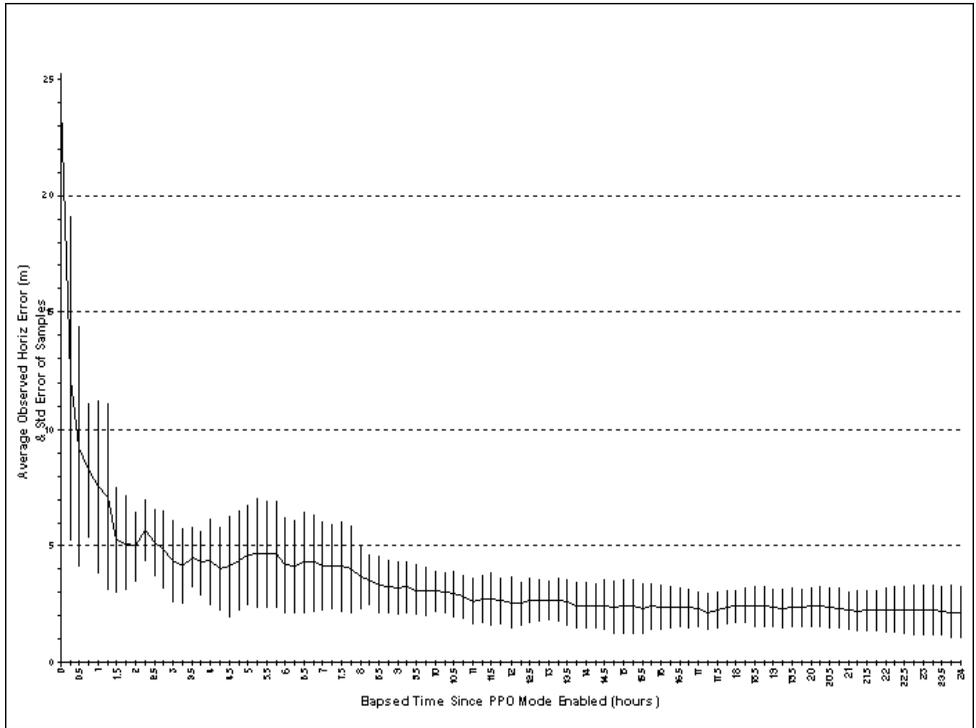

Figure 4.11:Point Positioning Mode Position Error - GPS Only
The Point Positioning feature improves the accuracy of a stand-alone absolute position of a stationary receiver to about 4 meters horizontal over a period of about 4 hours, and under 3 meters (horizontal) over a period of about 12 hours. (Figure 4.11). Point positioning uses an averaging technique to reduce the effects of Selective Availability (SA) and other fluctuating errors. Point positioning mode can be set using the \$PASHS,PPO command. We recommend that when using the point positioning mode that the system be set to use GPS only (\$PASHS,SYS command)